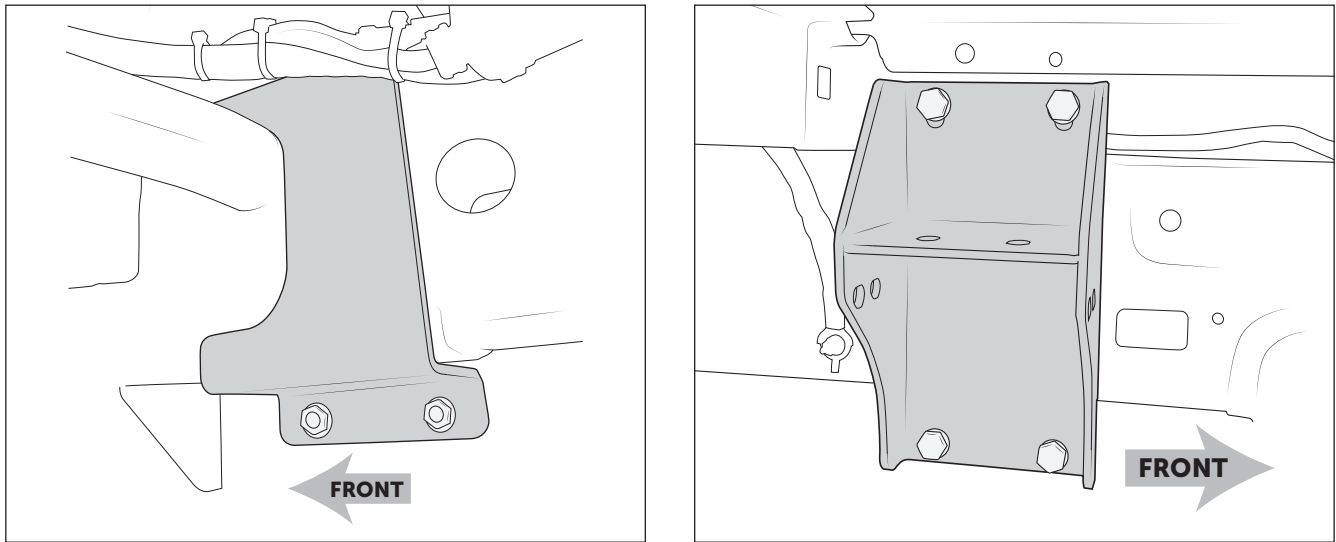

Figure 32 Left: Inboard Bracket Right: Outboard Bracket
3. Install the two piece frame bracket around the frame rail. Use four supplied M10x25 bolts, washers, and flange nuts to secure. Leave loose at this time (fig. 32: 2019+ shown).
- A. Torque AEV Frame Rail bracket nuts (fig. 32) to **43 lb-ft.**